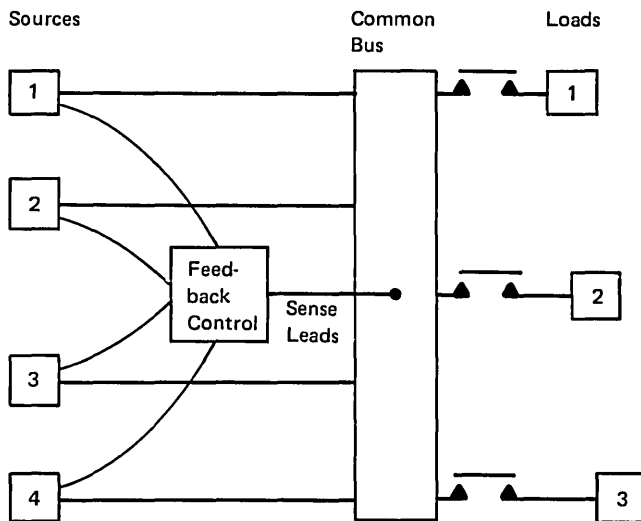

Figure A-3. Sensing at the Common Bus
- Sensing at the common bus electrical center (Figure A-3)